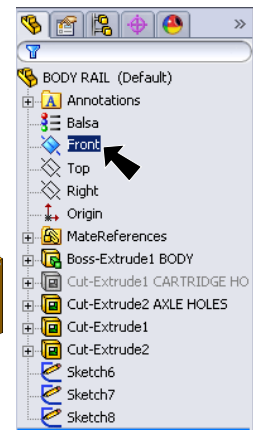

Fig. 51
Step 2. Click **Front**  (plane) in the Feature Manager, **Fig. 51**.